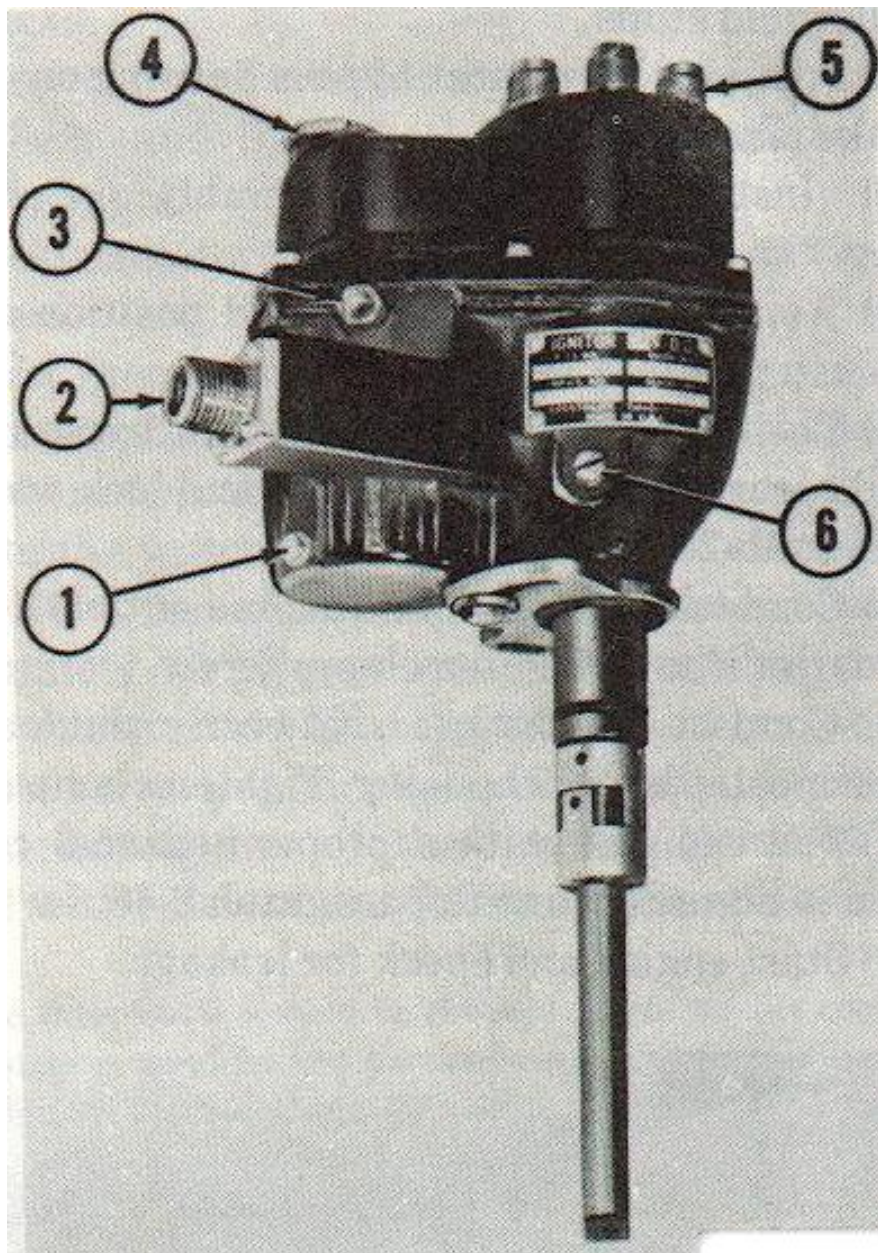

Figure 2-29. Ignitor.
b. Ignitor. The ignitor (fig 2-29) is designed for 24-volt DC primary current and is a completely waterproof unit. A water tight access plug is provided on the cover to allow connection to test instruments. The cover and lower housing enclose the ignition coil and distributor cap. Six water tight outlets are provided at the top to accept the spark plug cables. Two water tight outlets in the body are provided for the ventilation lines to the vacuum pump and to the carburetor. A drain plug is provided on the bottom of the base under the primary connector. A felt wick, accessible when the pipe plug below the name plate is removed, permits shaft lubrication while the ignition ignitor is mounted on the vehicle. The name plate on the right front of the body gives the specification number, manufacturer's number, ordnance number and serial number. The main parts of the ignition ignitor are cap, rotor, ignition coil, ballast resistor, breaker plate (which includes points and condenser), cam, drive shaft and base. The ignition coil is a component part of the unit. The primary circuit consists of the coil primary winding, ballast resistor feed-through capacitor, breaker points, two cables and the ignitor condenser. The secondary circuit consists of coil secondary windings, bakelite cap, rotor and spark plug cable terminals.